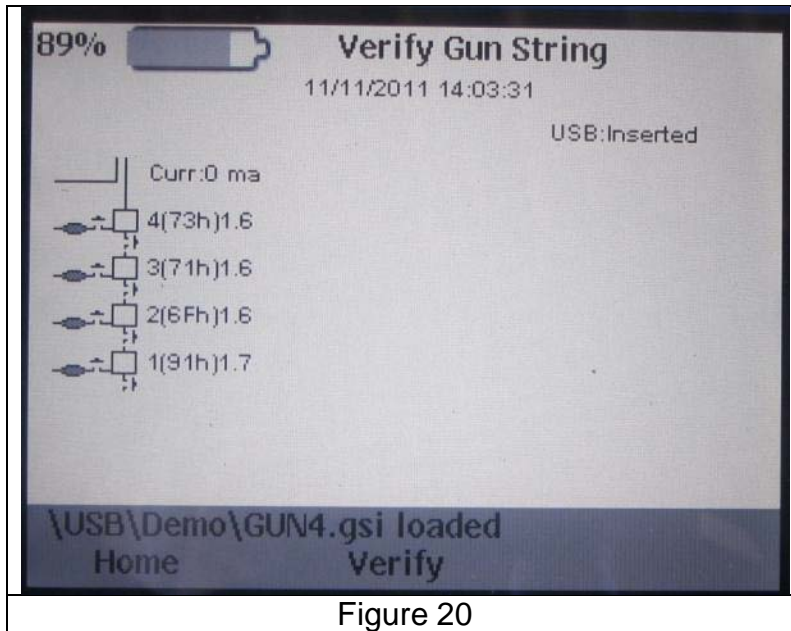

Figure 20
- The Open soft key brings up the Verify Gun String window shown in Figure 20